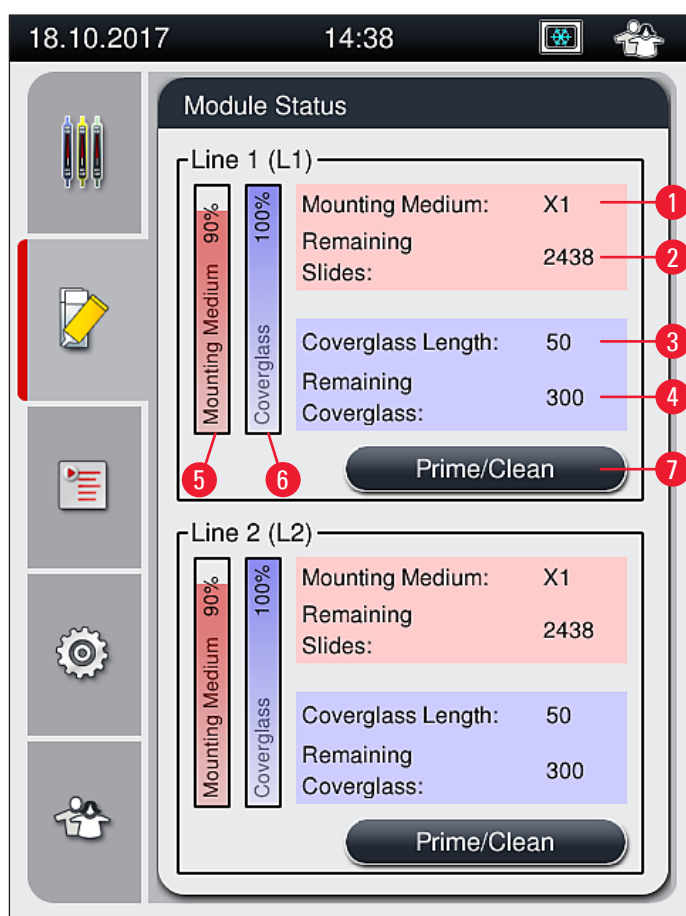

Fig. 49
- The menu **Module Status** (→ Fig. 49) provides the user in HistoCore SPECTRA CV an overview of the used consumables (mounting media (→ Fig. 49-1) and coverglass (→ Fig. 49-3)) and their current fill levels (→ Fig. 49-5) (→ Fig. 49-6) and remaining amounts (→ Fig. 49-2) (→ Fig. 49-4) for both coverslip lines.